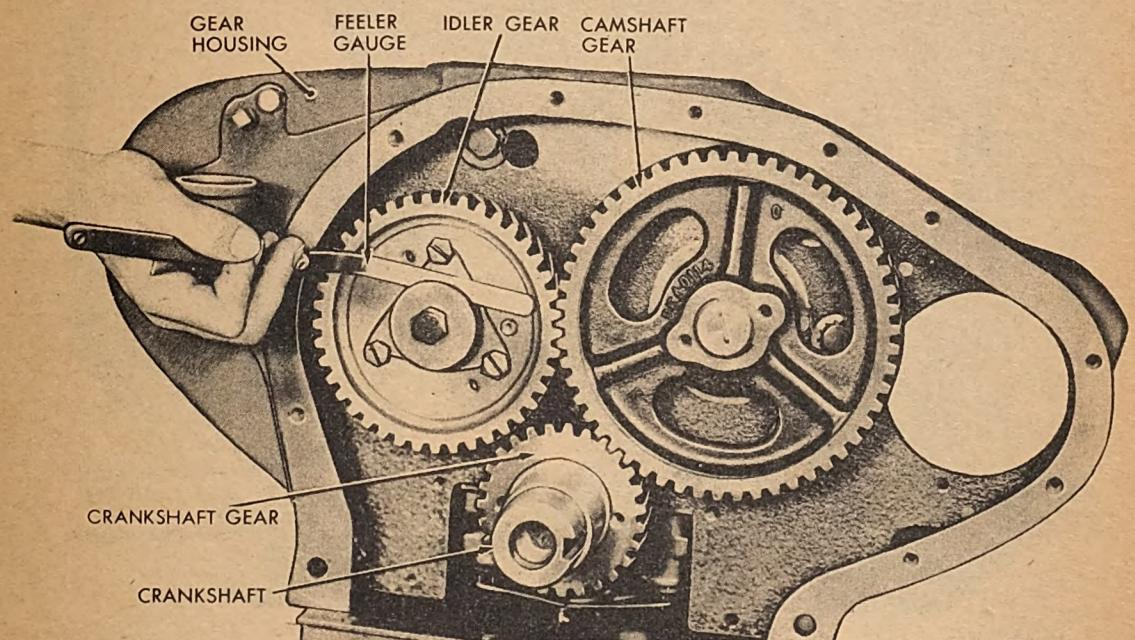

Fig. 89. Checking Idler Gear End Play
e. *Checking Idler Gear Clearances.* Check the idler gear end play and backlash before removing the gear. The end play should not be greater than .015 inch. (See Figure 89.) The backlash should not be greater than .012